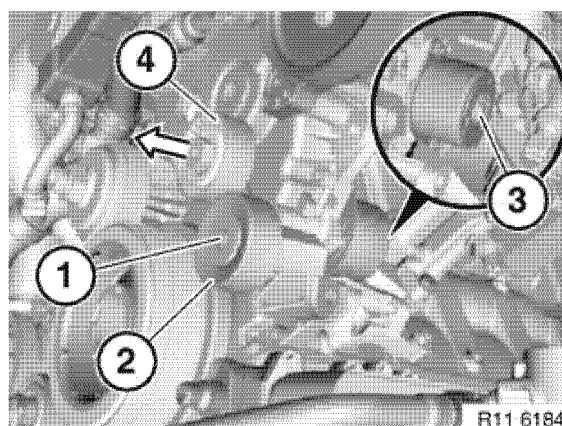

Figure 11-4
6. Remove bolt (1, **Figure 11-4**) securing idler pulley (2, **Figure 11-4**). Remove idler pulley.
*Note: Bolt (3, **Figure 11-4**) must be removed and installed with the belt tensioner spring assembly.*
7. Loosen bolt (3, **Figure 11-4**) securing tensioning pulley and arm to belt tensioner spring assembly.
8. Remove arm and pulley (4, **Figure 11-4**) in direction of arrow.